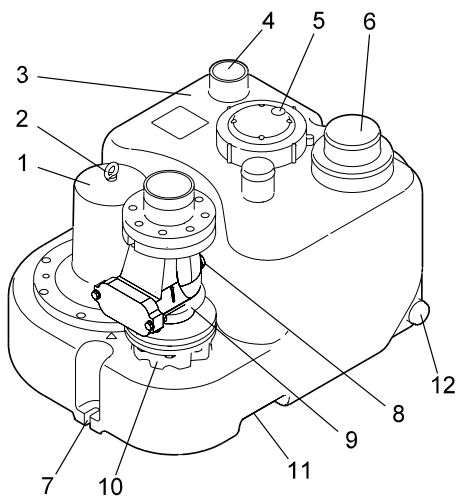

Fig. 1
Note: The lifting station must be lifted by the carrying handles cast in the bottom of the collecting tank, see pos. 11 in fig. 1.